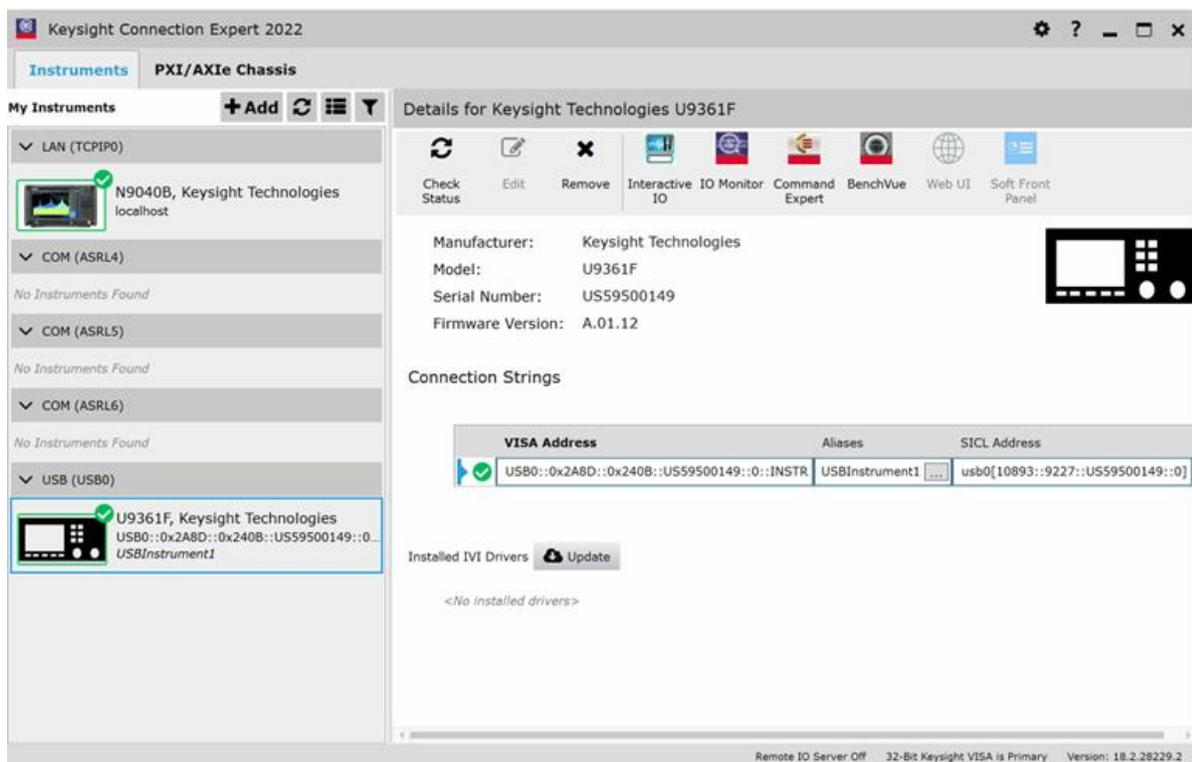

Figure 3. Add U9361 RCal in Keysight IO Library
1. Add an instance of the RCal U9361 Receiver Calibration to the Keysight IO Library as a USB instrument referenced in the VISA address (shown in Figure 3)